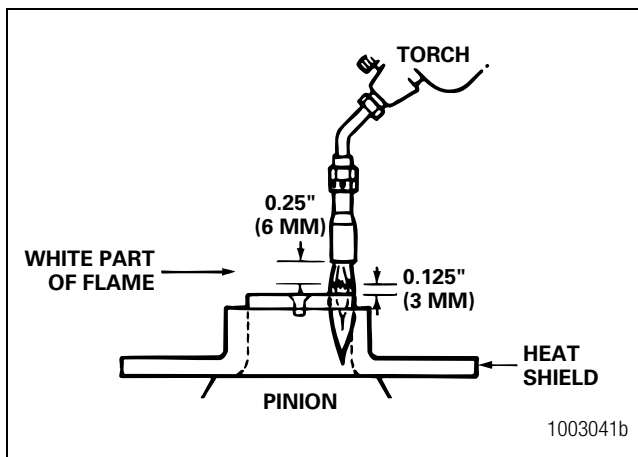

Figure 5.10
- Light and adjust the torch until the white part of the flame is approximately 0.25-inch (6 mm) long. Keep the white part of the flame approximately 0.125-inch (3 mm) from the top of the stem. Figure 5.10. Move the flame around the outer diameter of the top of the pinion stem. The green temperature indicating liquid will turn black before the blue liquid does. Heat the stem until the blue liquid turns black at a point in the middle of the window.